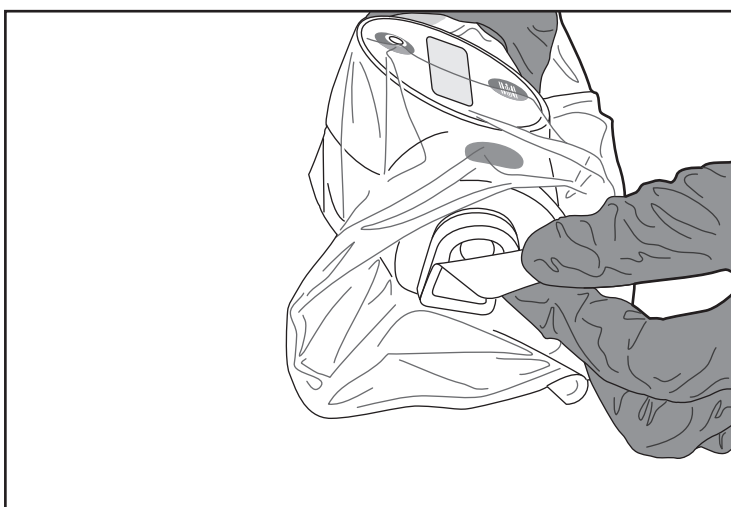

Figure 9. Removing Sticker
9. When ready to insert the MDU5 PLUS compatible catheter, remove the sticker from the faceplate and discard appropriately (Figure 9).